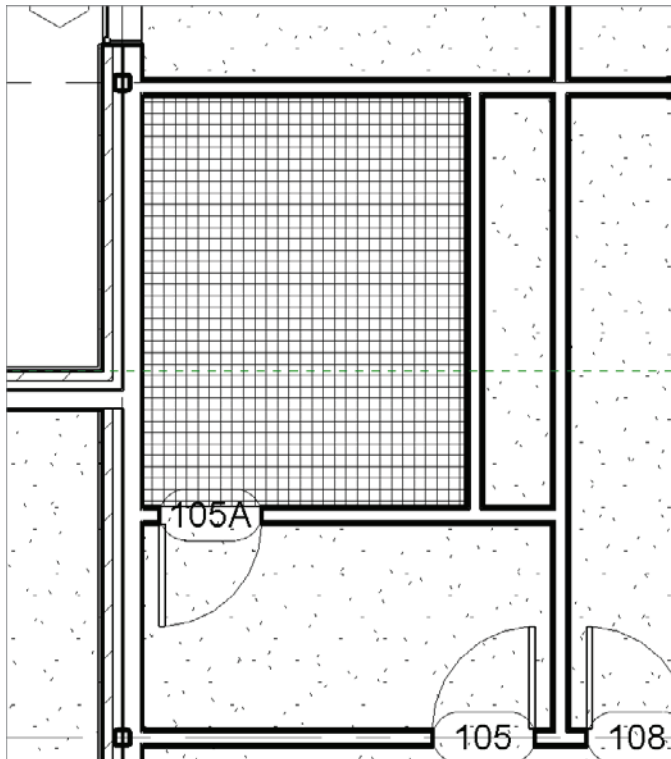

FIGURE 9.38 The lavatory area
2. Zoom in on the lavatory area, and turn off the thin lines mode, as shown in Figure 9.38.